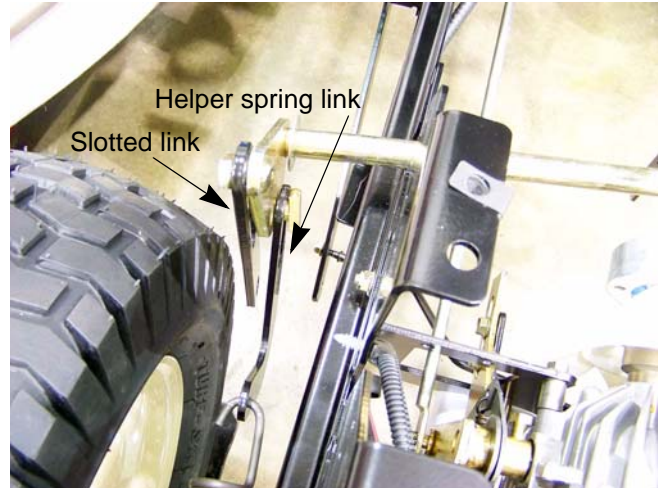

Figure 8.35
15. Disconnect the helper spring link from the lift shaft. See Figure 8.35.